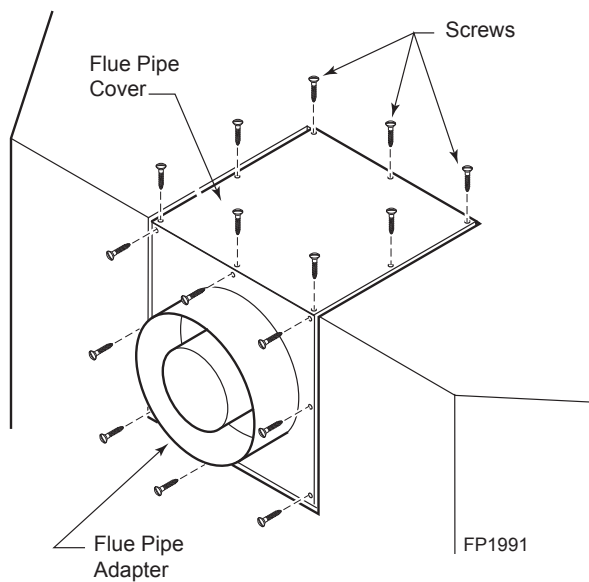

Figure 7 - Remove 16 screws from Flue Pipe Adapter and Flue Pipe Cover
1. Remove the eight (8) screws securing the flue pipe adapter to the fireplace body. *Figure 7*
3. Remove the eight (8) screws securing the flue pipe cover to the top of the intake box and remove the cover and gasket. *Figure 7*